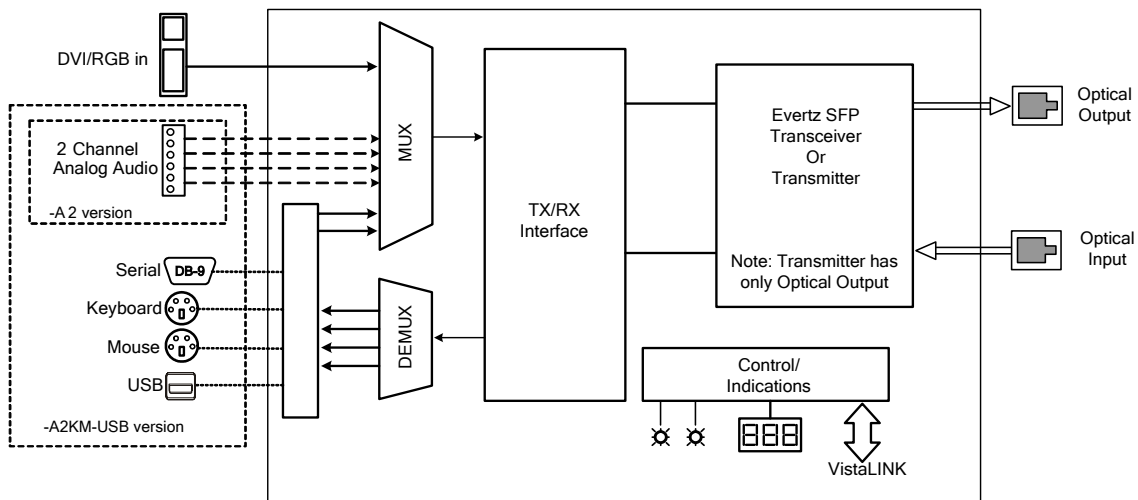

Figure 1-1: 7708RGBT Block Diagram
- Figure 1-1: 7708RGBT Block Diagram 2